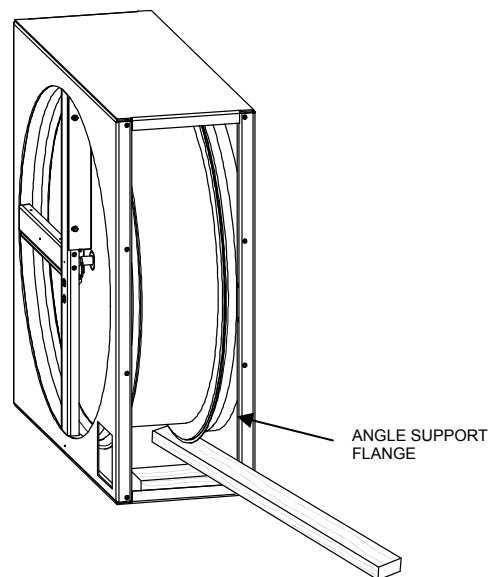

Figure 14 - Raising the Rotor
10. Refer to Figure 14. From the end of the cassette (where the motor was located), place a 4 x 4 block of wood on the floor of the cabinet. Place it under the same side of the rotor from which you removed the face seals. Position it underneath the angled, edge support flange that runs around the perimeter of the rotor.